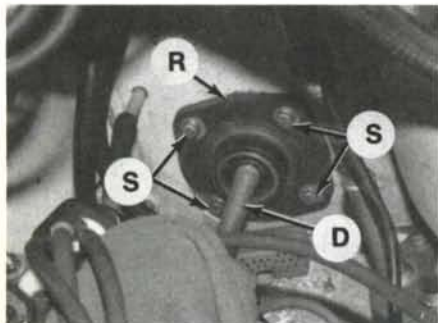

Fig. JS3-41—After withdrawing drive shaft (D) as outlined in text, remove cap screws (S) to withdraw bearing carrier assembly (R).
Withdraw drive shaft with drive flange from jet pump impeller and drive shaft bearing carrier (R—Fig. JS3-41). To remove drive shaft drive flange, hold drive shaft with Kawasaki tool W56019-003 and adapter 57001-1231 or a suitable equivalent tool, then rotate drive flange off drive shaft using Kawasaki tool 57001-1230 or a suitable equivalent. Remove four bearing carrier assembly mounting cap screws (S), then withdraw bearing carrier assembly (R).
Install seals in bearing carrier with open sides facing away from center ball bearing. Fill inner seals with a suitable high temperature grease. Install a nonpermanent thread locking solution on threads of bearing carrier mounting cap screws (S—Fig. JS3-41), then install bearing carrier (R) and tighten cap screws (S) to 22 N·m (16 ft.-lbs.). Hold drive shaft with Kawasaki tool W56019-003 and adapter 57001-1231 or a suitable equivalent tool, then use Kawasaki tool 57001-1230 or a suitable equivalent and tighten drive flange to 98 N·m (72 ft.-lbs.) on JF650 models and to 27 N·m (20 ft.-lbs.) on JS650SX models. Grease drive shaft splines, then install drive shaft through bearing carrier and engage drive shaft splines with splines in jet pump impeller.